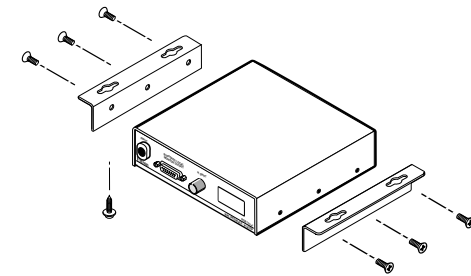

Figure 9 — Attaching the under desk brackets (part number 70-077-01)
- Attach the mounting brackets to the interface using six machine screws supplied with the mounting kit (see figure 9).